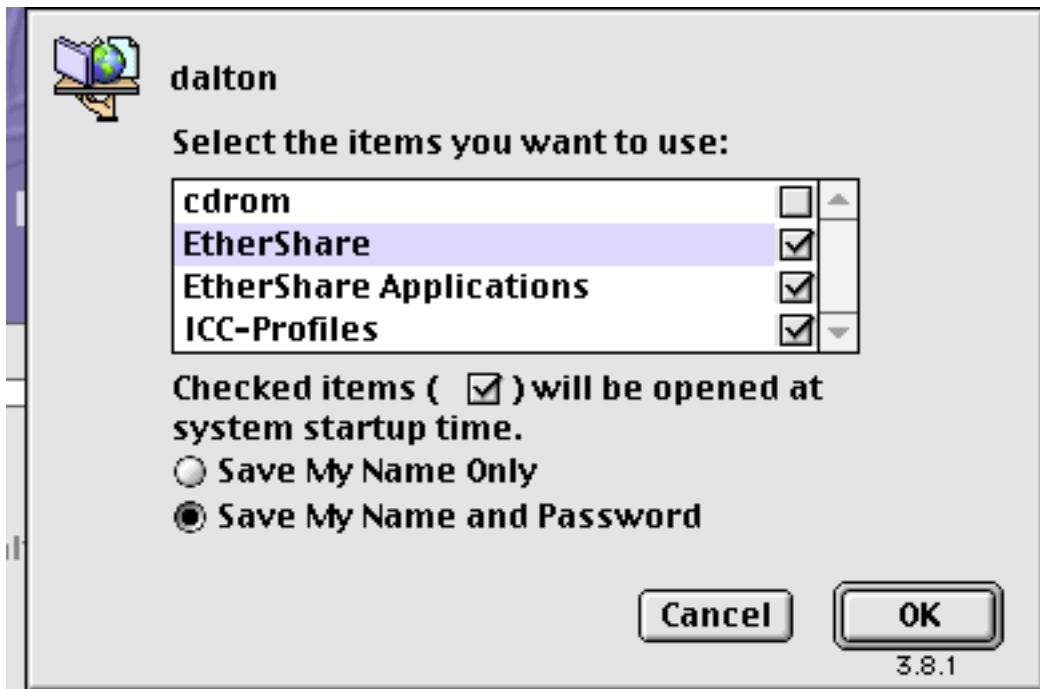

Figure 88. Sample connection dialog
- c. From the **Dalton** dialogue (displayed in Figure 88 on page 375) – where **Dalton** is the name of the InfoPrint AIX server – press **OK**.